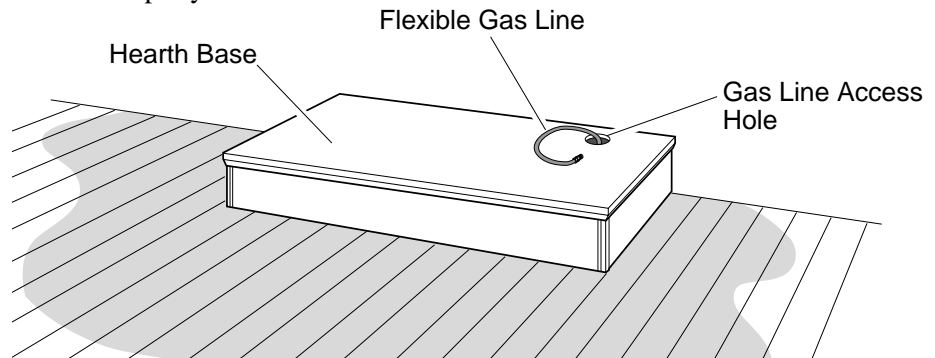

Figure 8 - Placing Hearth Base Accessory Against Wall
3. Place hearth base accessory against wall at installation location. Cut an access hole in hearth top to run flexible gas line to fireplace (see Figure 8). Make sure to locate access hole so cabinet mantel will cover it when installed.